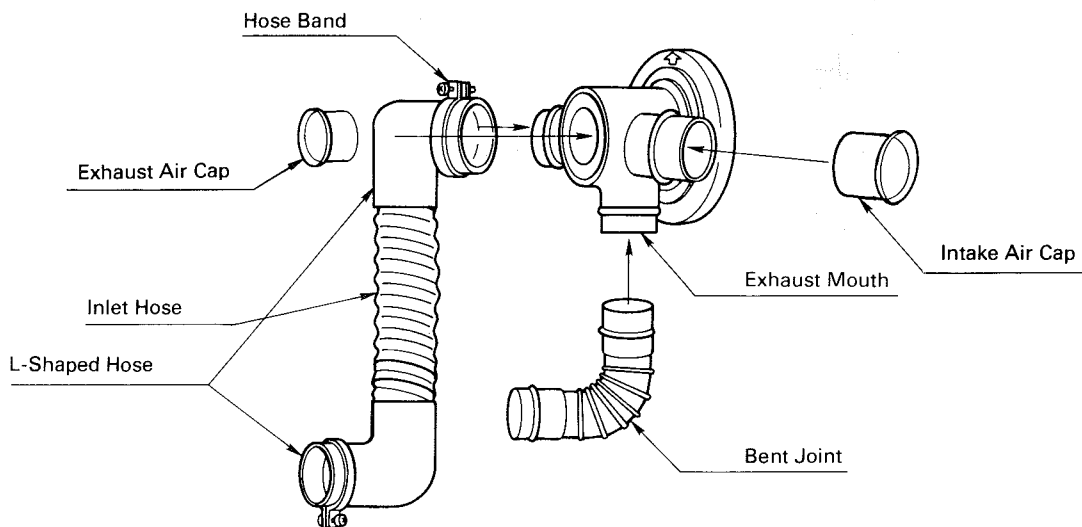

Fig. 12
8. Insert the bent joint to the exhaust mouth of the standard flue pipe. Cut the inlet hose for desired length if necessary. Attach the L-shaped hose to each end of the inlet hose and attach the L-shaped hose to the intake mouth of the standard flue pipe. Secure the L-shaped hose to the intake mouth with the hose band. Plug the unused exhaust and intake mouth with the caps provided with the heater. Make sure the caps fit tightly onto the mouth (See Fig. 12).